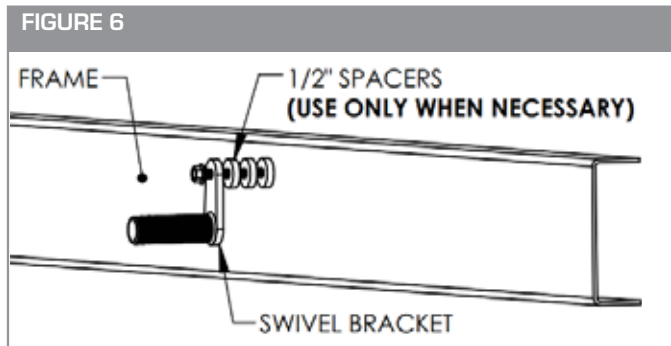

FIGURE 7
- Once the brackets are in position with the fender, tighten the 5/8" x 4-1/2" bolt that goes through the (10001472/10001473) swivel bracket to attach the swivel securely to the frame. (See Figure 7)